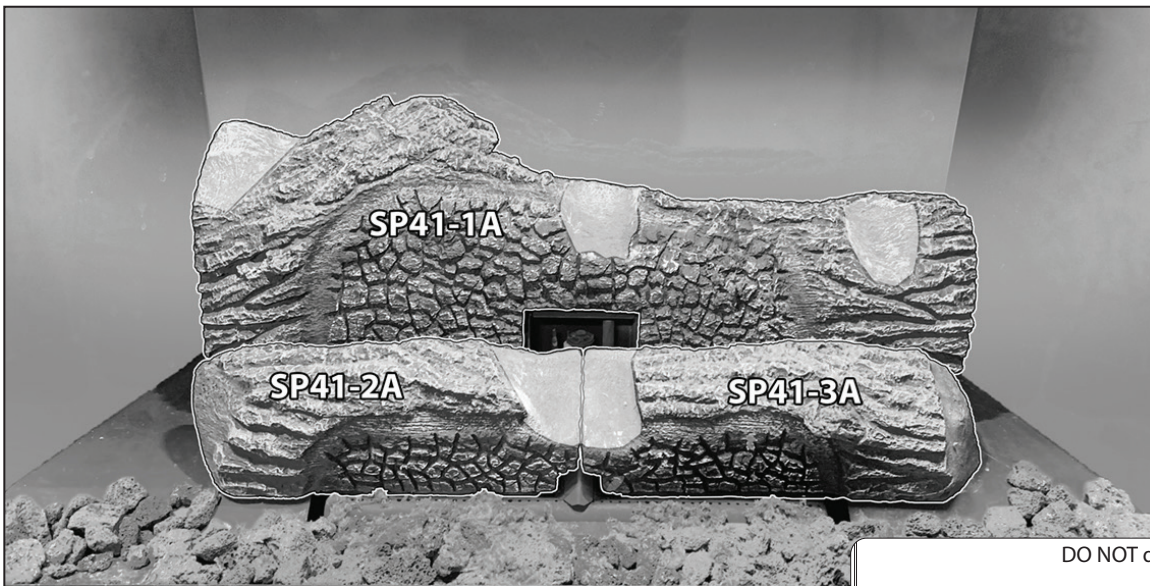

FIGURE 8.1 Base Logs
3. Install (3) AAA batteries (included in the components packet) in the remote control battery bay.
5. Connect the fan to the AUX 300 control module (**FIGURE 8.1**, page 31).